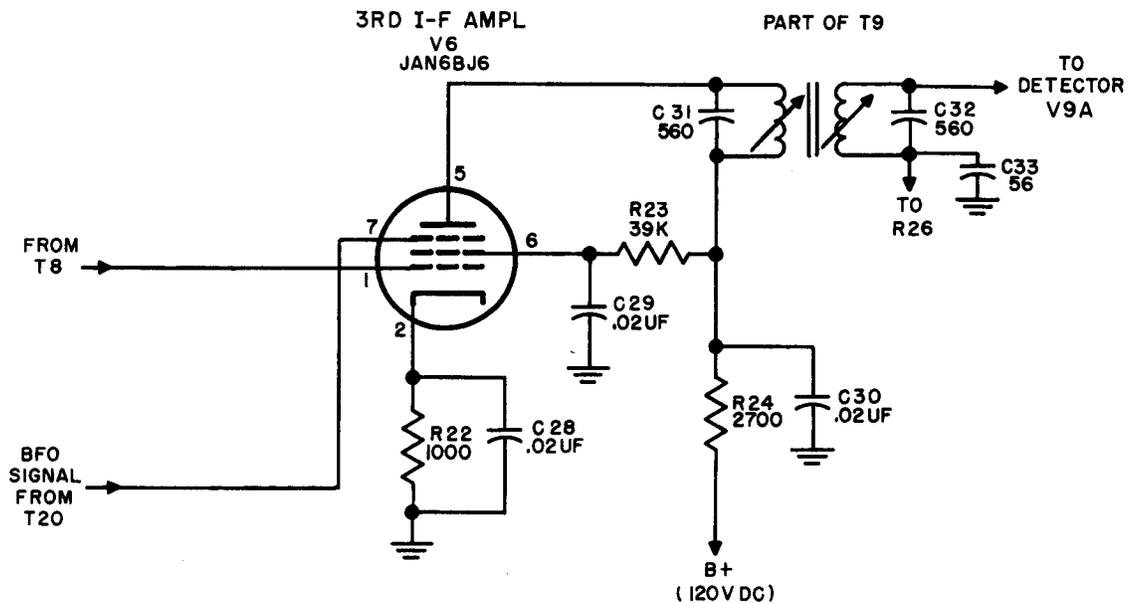

Figure 2-7. Third I-f Amplifier Simplified Schematic Diagram
f. THIRD I-F AMPLIFIER. (Figure 2-7)—The third i-f amplifier is the last stage of intermediate frequency amplification. The 455-kc signal from the preceding i-f amplifier stage is applied to the control grid (pin 1) of V6, amplified and coupled to the detector through transformer T9. When c-w reception is desired, the beat frequency oscillator (BFO) is energized and generates a frequency that differs from the intermediate frequency by a few hundred cycles. This signal is applied to the suppressor grid (pin 7) of V6. Mixing action occurs producing sum and difference frequencies in the output circuit of V6. Resistor R24 and capacitor C30 form the plate and screen grid decoupling network. Capacitor C29 places the screen grid at ground potential while resistor R23 lowers the screen voltage to the correct operating value and adds additional decoupling. Cathode bias is provided by resistor R22 and the r-f component is grounded by capacitor C28.